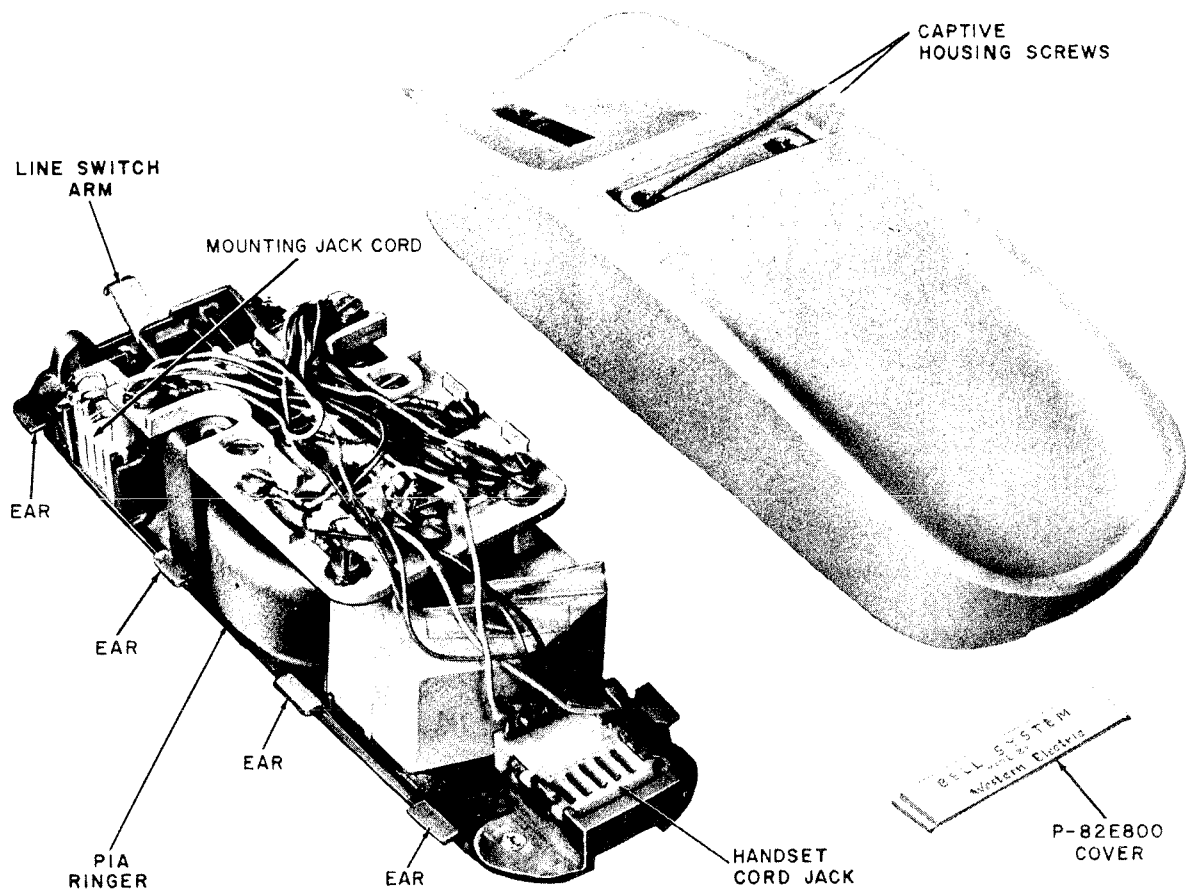

Fig. 7—Interior Of AD1 Telephone Base (Current Production)
(4) To replace the housing on the base the housing must clear the ears (Fig. 7) on the base in order to seat properly. Tighten the captive housing screws and replace the P-82E800 cover.